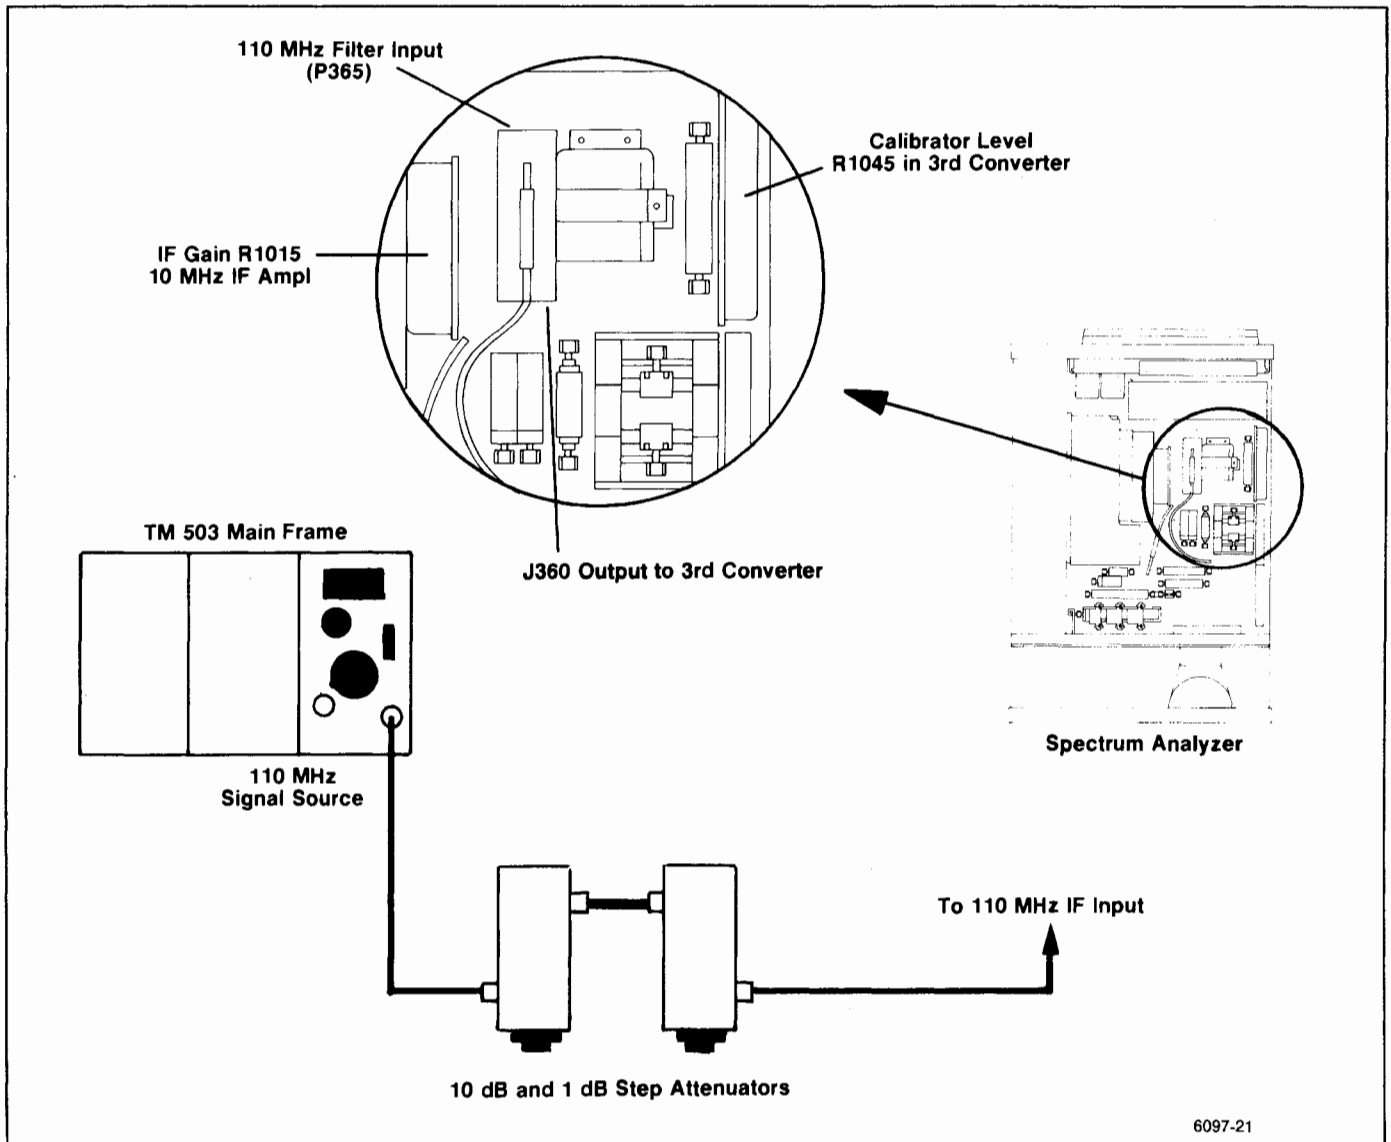

Figure 5-21. IF gain test setup, and adjustment and connector locations.
f. Adjust Cal Level R1041, in the 3rd converter (#2 in Figure 5-21) for no displacement between the CAL OUT signal and the reference (VIEW B and SAVE A displays).
a. Test equipment setup is shown in Figure 5-21. Set the **RESOLUTION BANDWIDTH** to 1 MHz, **VERTICAL DISPLAY** to 2 dB/DIV, **REF LEVEL** to -20 dBm, and apply a -25 dBm, 110 MHz signal, through step attenuators, to the input (J365) of the 110 MHz filter.
d. Set the step attenuators for 21 dB attenuation and apply the 110 MHz signal to the input (J321) of the 110 MHz IF amplifier (Figure 5-21).